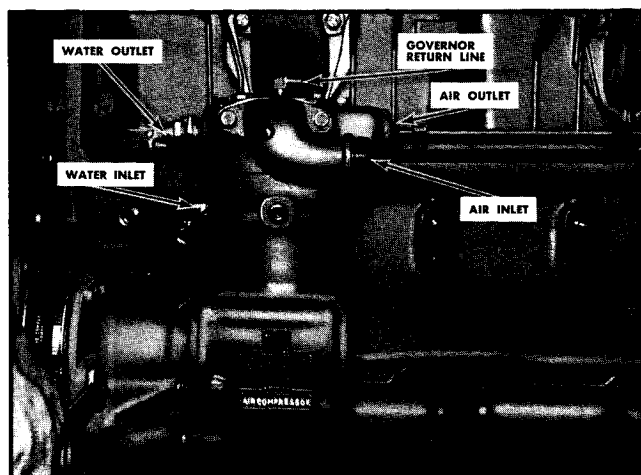

Fig. 4-15. Cummins air compressor, installed
1. Using a new gasket, install compressor to gear case; secure with lock washers and capscrews. Fig. 4-15.